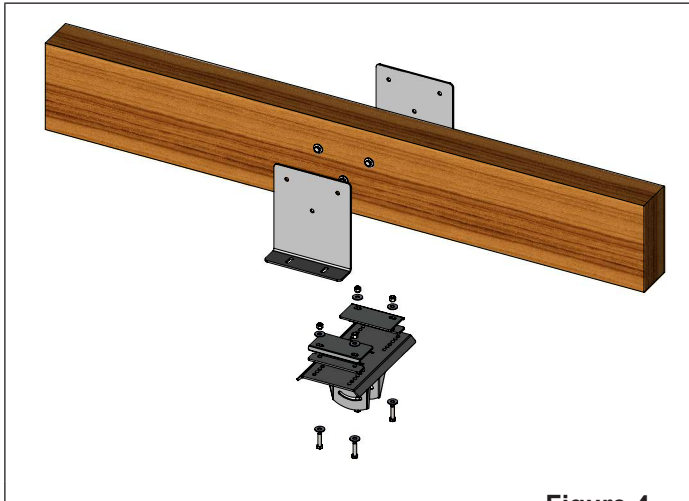

Figure 4
1. Through bolt the laminated beam brackets with 1 bracket on each side of the laminated (or concrete) beam (Figure 4).